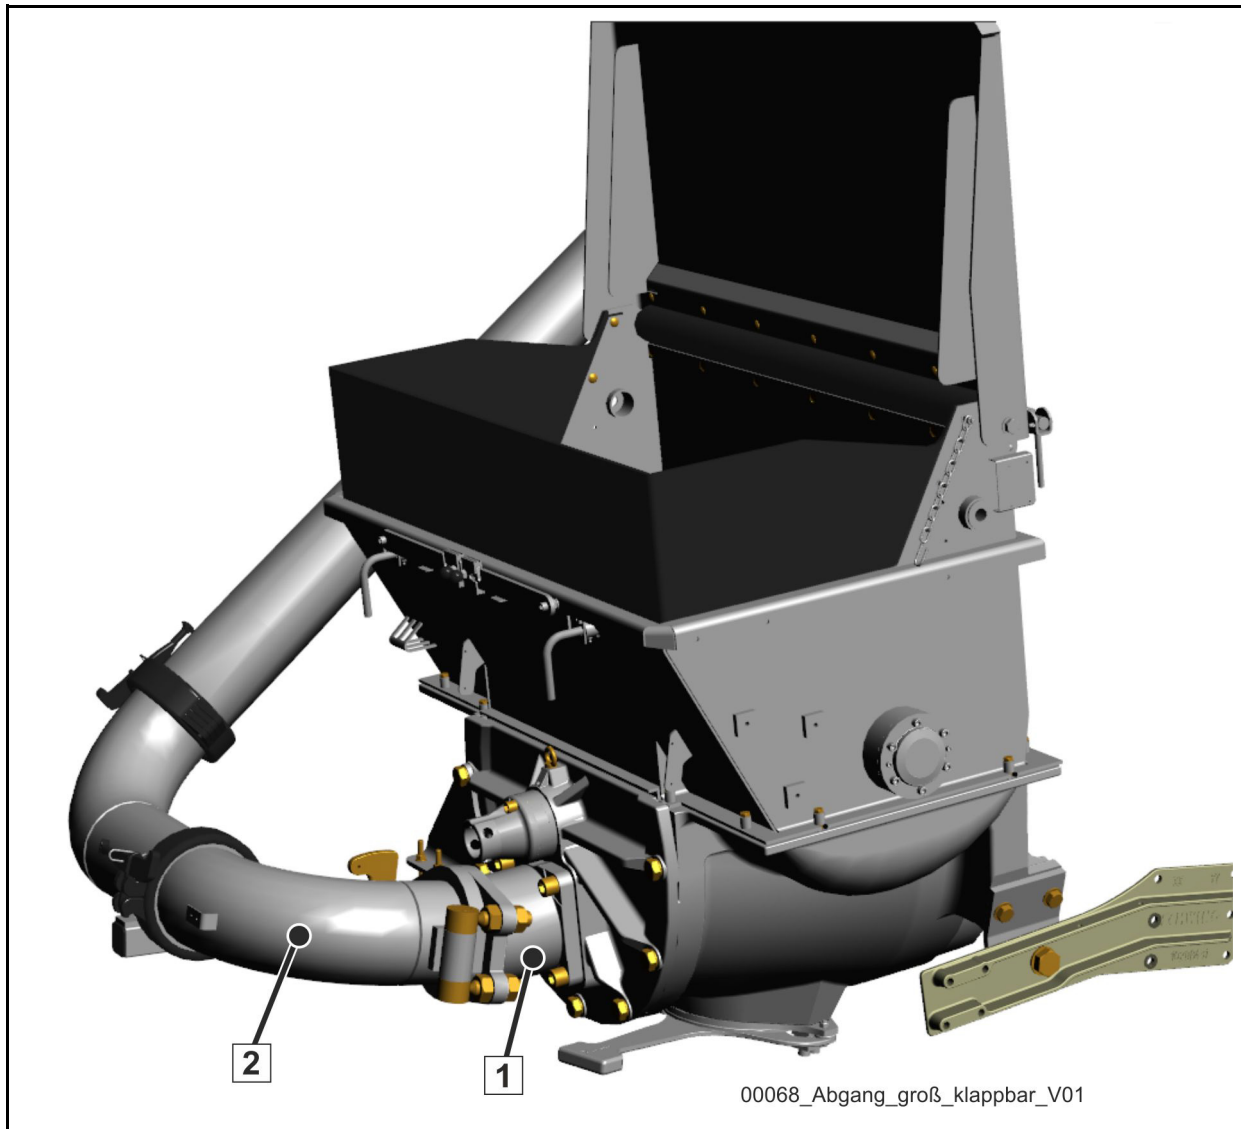

Fig. 72 Large outlet, foldable
The larger outlet 180/180/150 also has a 14-degree elbow mounted on the rock valve, see (1) (Fig. 72).